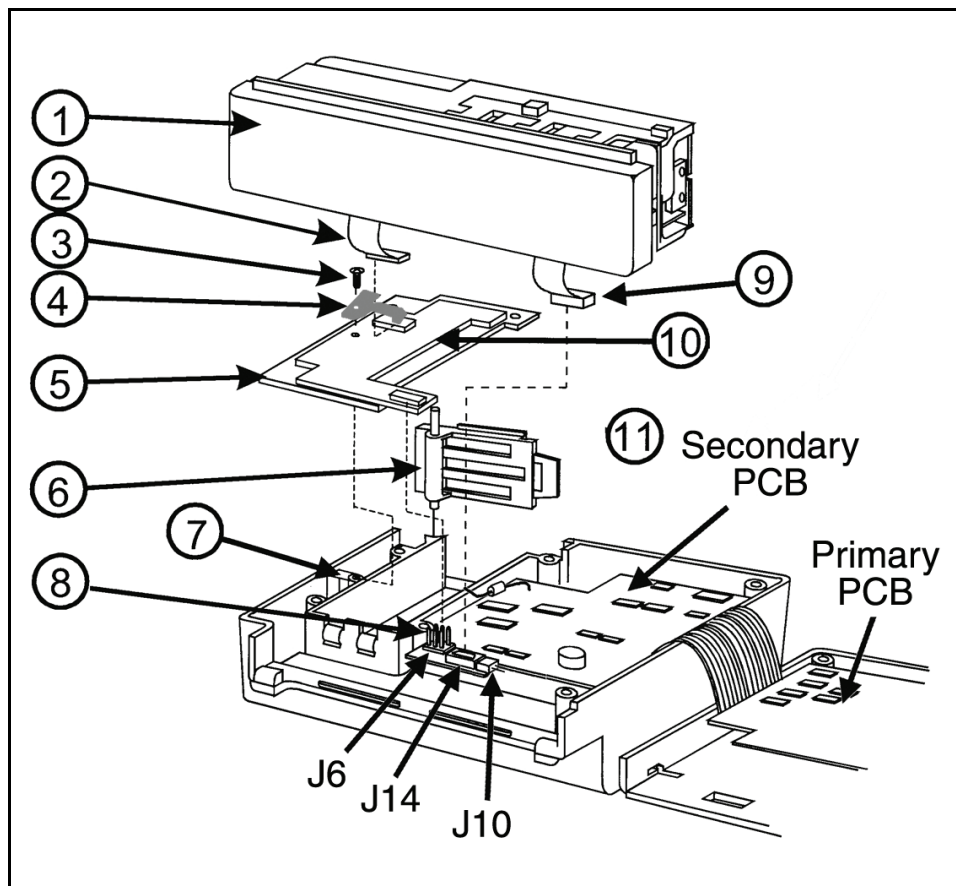

Figure 6-4. Mechanism Assembly, DDMM PCBA, and Battery Wall Removal
2. The Battery Door (6) is free to be removed after the Rear Case is removed.
3. Refer to Figure 6-4. Remove the screw (3) and lift off the Motor Retainer Bracket (4). Carefully disconnect the six-pin motor connector (2) from J2 on the DDMM PCBA (10).
4. Locate the fifteen-pin Flex Cable Connector (9), hold it by the edges, and carefully lift up from J14 on the Secondary PCB. (DO NOT pull on the Flex Cable.)
5. Lift the Mechanism Assembly (1) out of the Front Case.
6. To remove the Battery Wall (5), desolder the 30 ga jumper wire (11) from the solder pad on the DDMM PCBA. Carefully lift the DDMM PCBA straight up from J6 (8) and slide horizontally from under the ESD Flex Circuit Ground Tab (7). Slide the Battery Wall from under the ESD Flex Circuit Ground Tab (7) and lift out of the pump.
NOTE: For ease of parts identification, the ESD Flex Circuit is not shown in Figure 6-4.